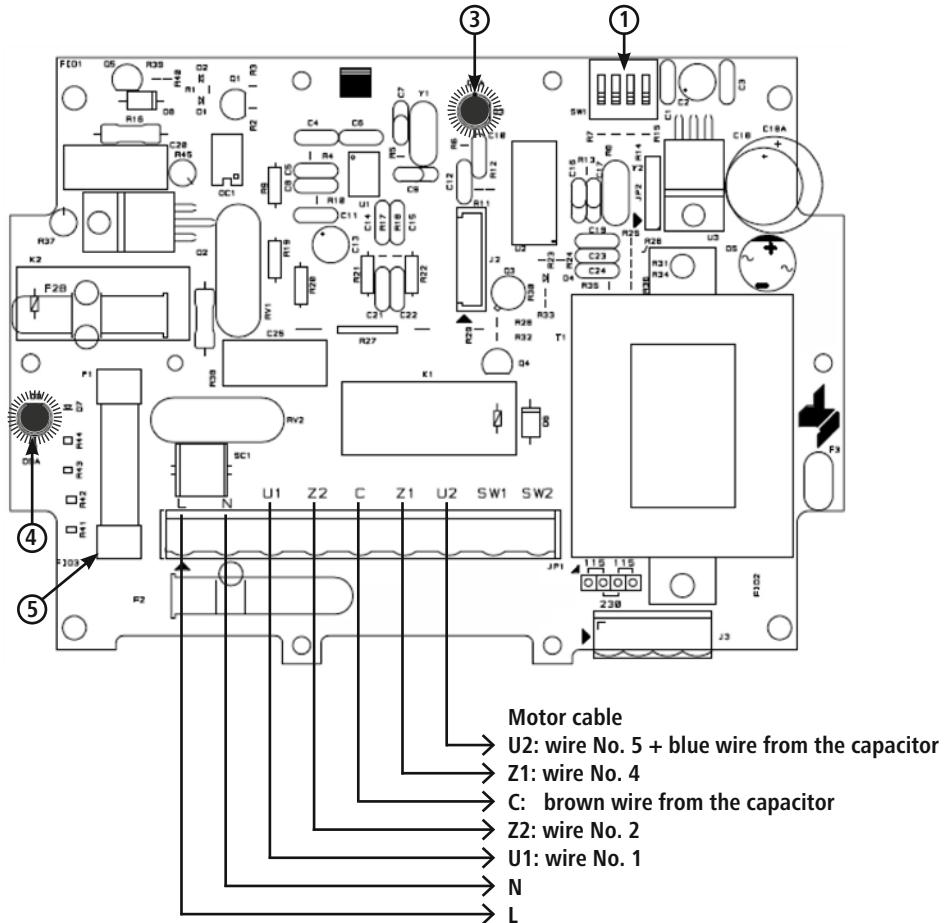

Figure 7: main control card diagram
The device monitors the current used by the motor and therefore checks the correct functioning of the cow brush. If the gear motor is placed under too much strain, the brushes stand still and then move in the opposite direction. This can occur if the animals lean to far too one side or if a tail gets wound up in the mechanism. If this occurrence is repeated more than five times, with the period between events being less than 5 seconds, the control card triggers an alarm, the display shows fault "A03" and the machine switches to its alarm state for 3 minutes. (= Motor does not run) The resistance threshold (= switch-off resistance) can be adjusted using the black dip switch element (item 1, Fig. 7) on the control card. When carrying out this change, a qualified electrician should always be consulted who can ensure the safe opening of the control box.